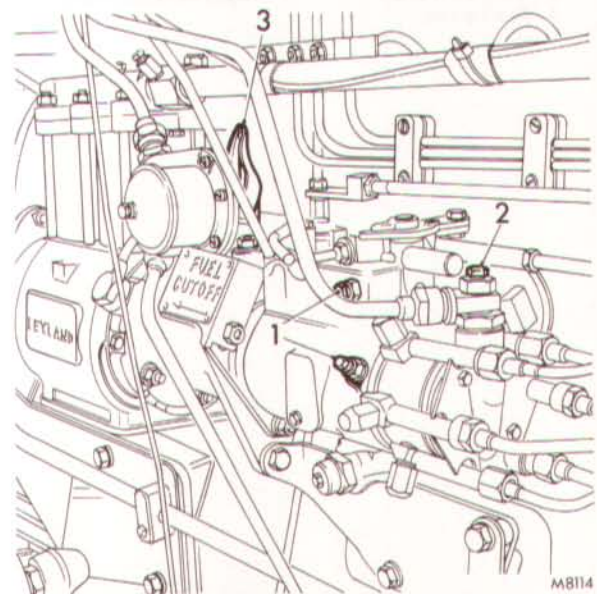

FIG. 32. FUEL SYSTEM BLEED POINTS
**Priming the Fuel System (Fig. 32)**